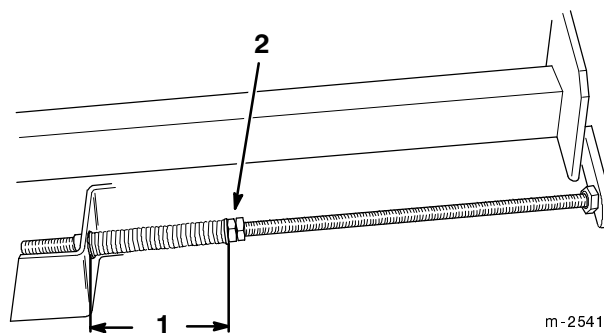

Figure 29
6. Tighten the jam nuts on the adjusting shafts until the springs are compressed to a length of 12.7 cm () (Fig 29).